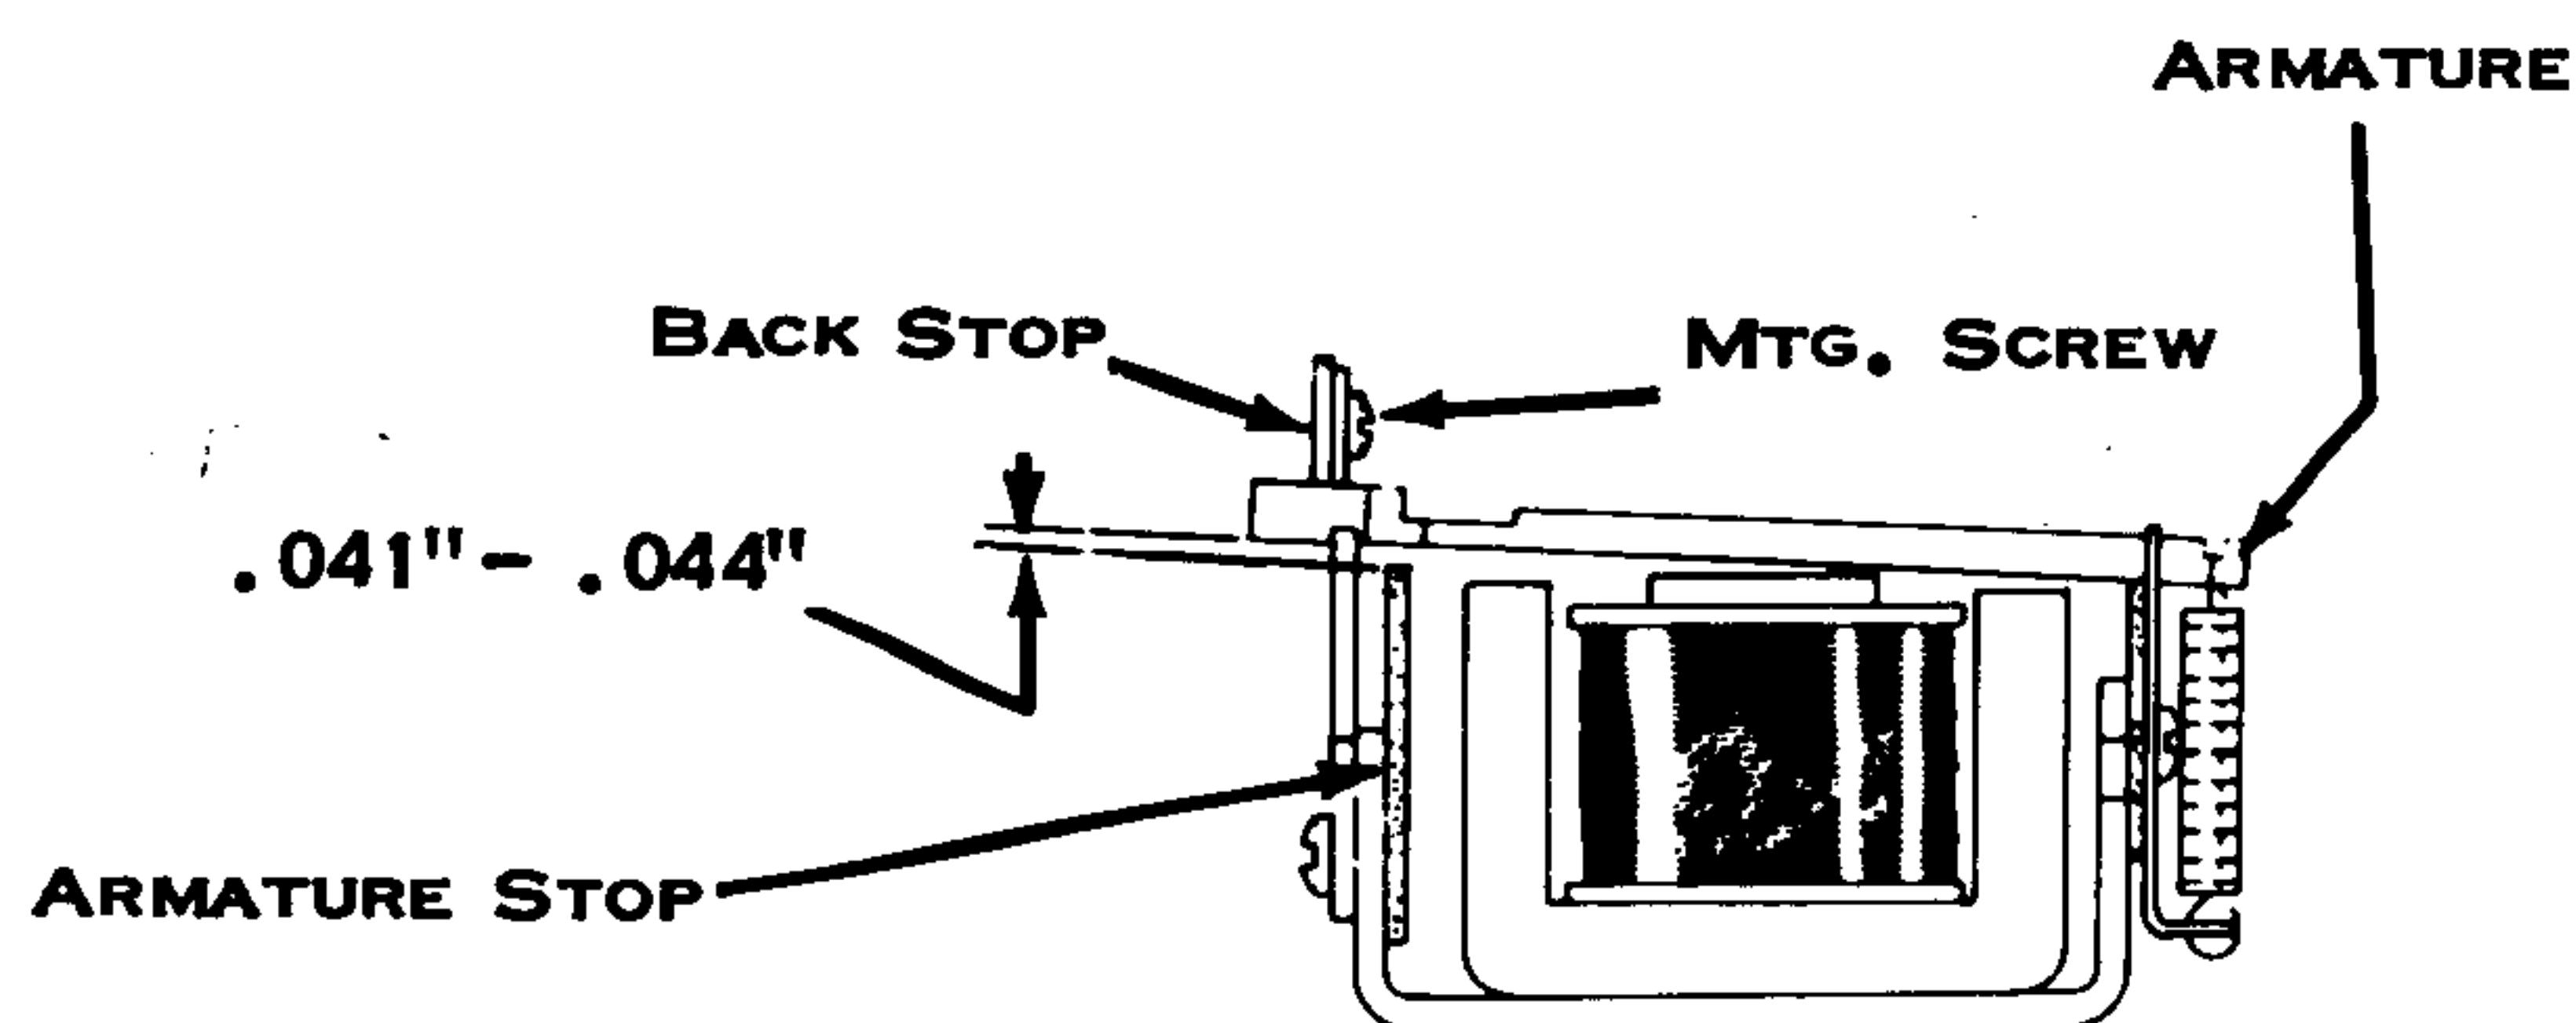

Figure 23. Armature Backstop
5. Back Stop (Fig. 23) - Position vertically (with armatures at rest) for a clearance of .041" to .044" between the armature stop and armatures. Measure clearance at the outside armatures (T2 & R5).